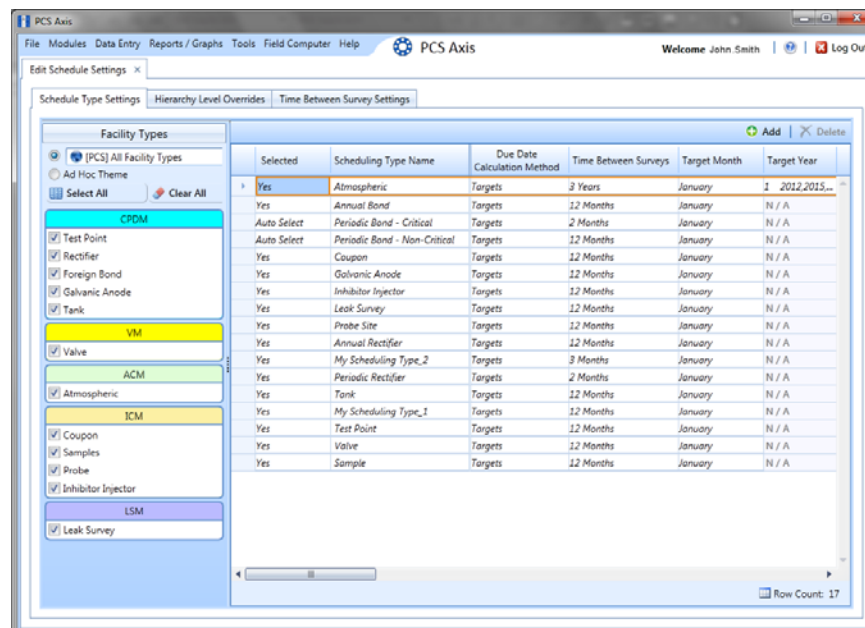

Figure 8-4. Schedule Type Settings
- 2 Click **Data Entry > Edit Schedule Settings > Schedule Type Settings** tab (Figure 8-4).